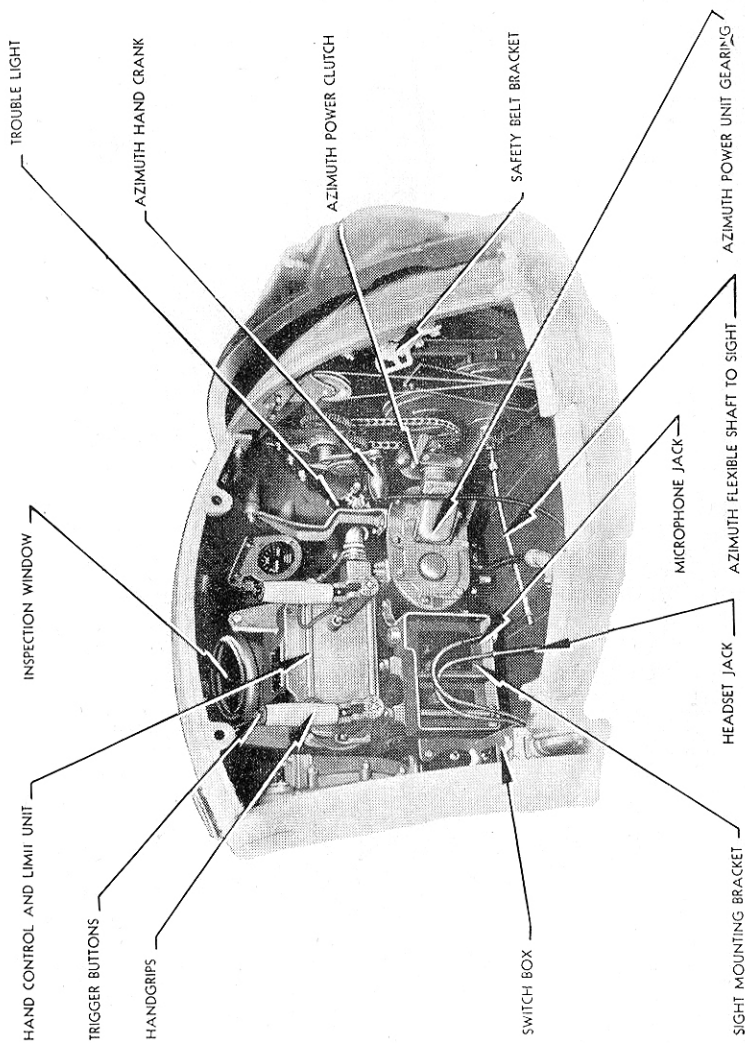

FIGURE 18—Interior of Turret and Operating Controls
5. Move turret by hand in azimuth to 180 degrees as marked on trunnion ring support (guns pointing directly toward tail of airplane). Engage Azimuth Power Clutch to secure turret (see Figure 18).
Examine Figures 18 and 19 to become familiar with the controls inside the turret before reading the instructions on entering, leaving, and operating the turret. The procedures which follow *must be strictly adhered to*.